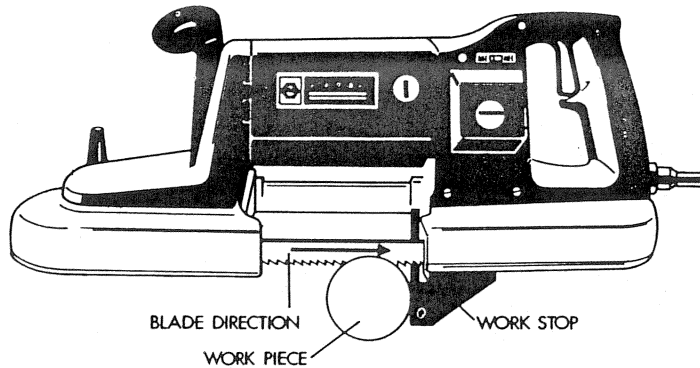

FIGURE 3
3. Turn the Saw "ON" before lowering blade onto work. This will help prevent tooth breakage. Always start cutting with the work piece back against the work stop (Figure 3). Normally, blade direction and cutting force will keep the work against the work stop where it belongs.